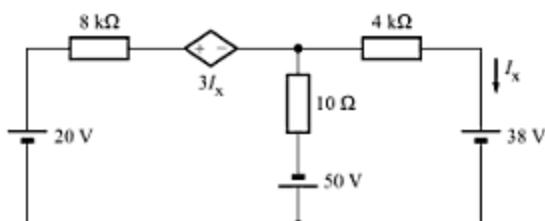

Fig. A-102
- A-66. Determine the current I_x in the circuit of Fig. A-102.